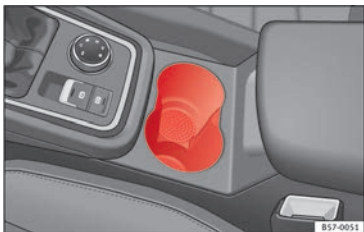

Fig. 155 Centre console: front drink holders.
- Place drinks in the holder »» Fig. 155. Placement of two drinks is possible. There is also the possibility of placing larger plastic bottles in the trims of the doors.